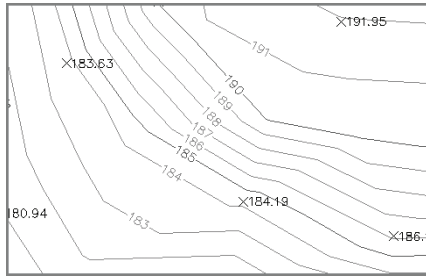

FIGURE 4.19 Contour labels
15. Click two points in the drawing that stretch across several contours. Contour labels appear where contours fall between the two points you've selected (see Figure 4.19). You've actually drawn an invisible line that intersects with the contours.